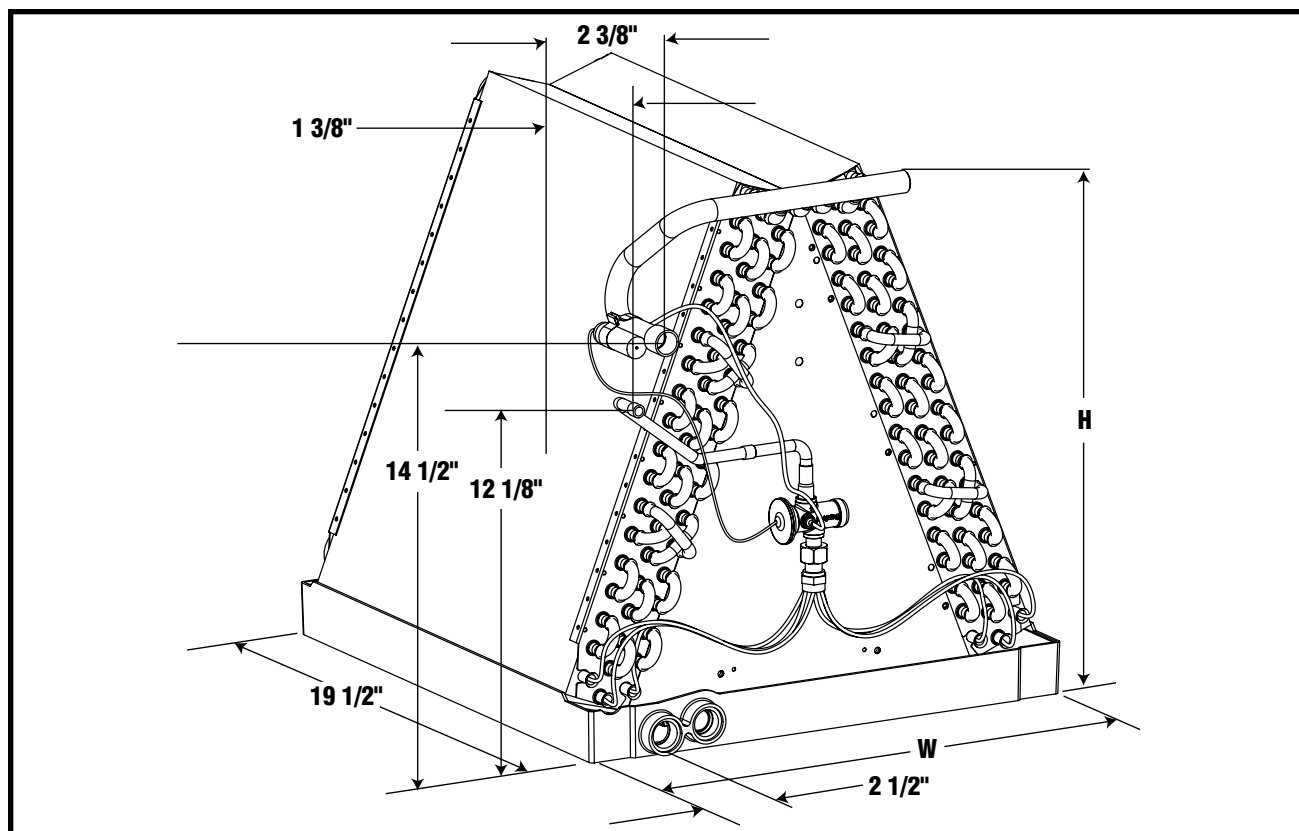

Figure 5. Coil Dimensions
2. Install the coil case on the furnace air discharge opening and level it as needed to ensure proper condensate drainage. If needed, make a plate to adapt the coil to the air discharge opening. See Figure 5 (page 5) for coil dimensions.